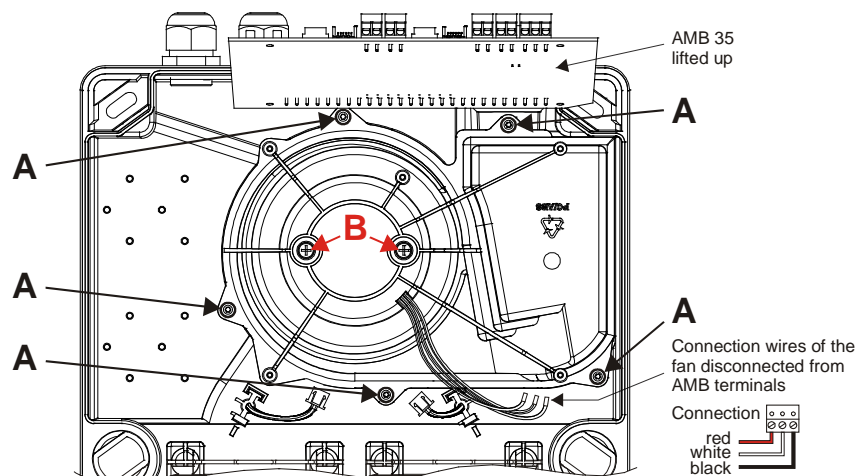

Fig. 54 Removing the aspirating fan unit
To replace the AFU 35 aspirating fan unit, the AMB 35 Main Board must be removed. This is done by carefully removing all internal cable connections. Remove the three connection wires from the terminals. It is not necessary to pull out plug-in terminals 1 to 26. After removing the fastening screws of the AMB 35 with a **Torx T10 screwdriver**, the AMB 35 can be lifted up toward the cable entries and the fastening screws of the aspirating fan unit are accessible. To remove the aspirating fan unit, remove the five screws **A** with a **Torx T15 screwdriver** (see Fig. 54).
- When connecting the new aspirating fan unit, pay attention to the wire colours (see Fig. 54).